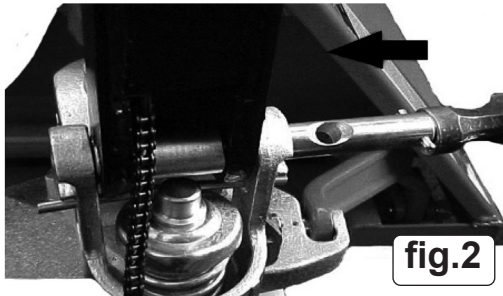

fig.2
- 5.1. Insert the tiller arm (1) into the pump piston, then use a hammer to insert the axle with hole into the hydraulic pump and tiller, arm from right to left (fig.2).